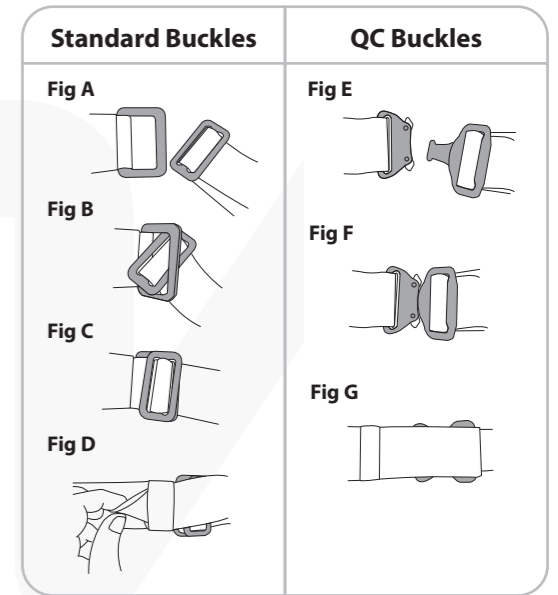

Fig 1
2. Place the waist belt around the waist and hold in place using elbows/ inner arms. (Fig 1)